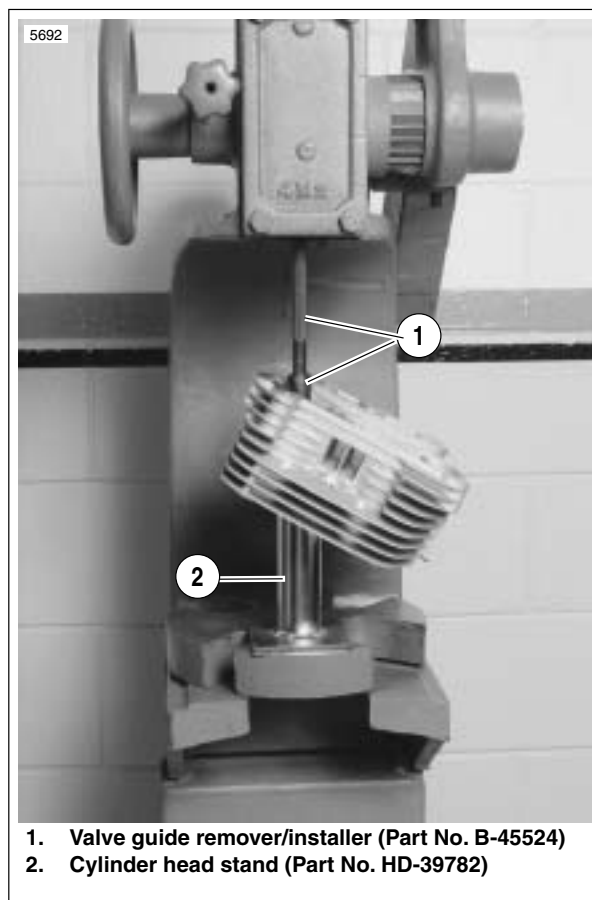

Figure 3-70. Installing Shoulderless Valve Guide
4. See Figure 3-70. Install shoulderless guides using VALVE GUIDE REMOVER/INSTALLER TOOL (Part No. B-45524). Press or drive guide until the tool touches the machined surface surrounding the guide. At this point, the correct guide height has been reached.